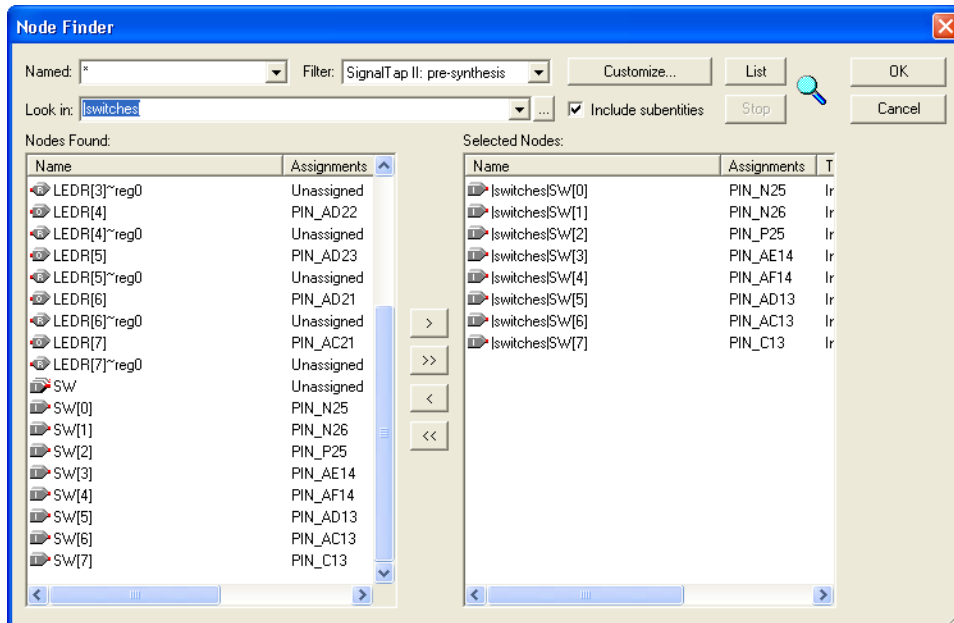

Figure 10. Add nodes in the Node Finder window.
4. We now need to add the nodes in the project that we wish to probe. In the Setup tab of the SignalTap II window, double-click in the window that says **Double-click to add nodes**, bringing up the Node Finder window in Figure 10. Click List. This will now display all the nodes that can be probed in the project. Highlight SW[0] to SW[7], and then click the > button to add the switches to be probed. Then click OK.